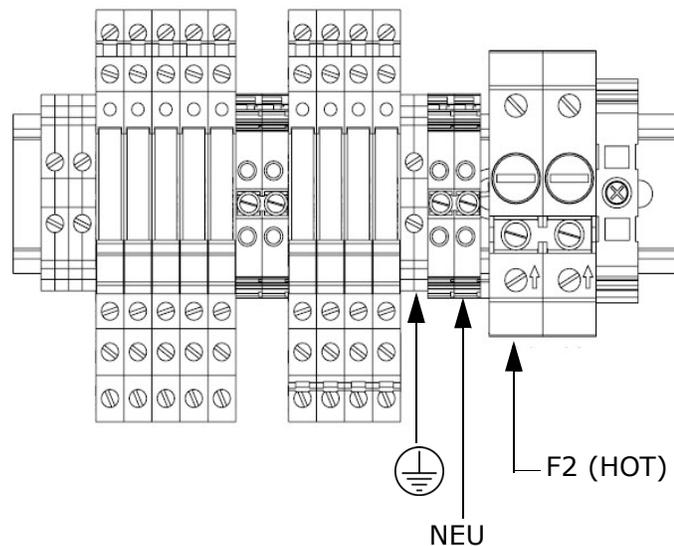

Figure 3–2 AC single phase (120 VAC/240 VAC) connection terminal block in analyzer electronics enclosure
6. For 120 VAC or 240 VAC single-phase power connections, attach the wires to the power terminal block by connecting the neutral wire to the terminal marked "NEU" and the hot wire to the terminal marked "F2," as shown in Figure 3–2. Connect the ground wire to the safety ground terminal marked with the  symbol.